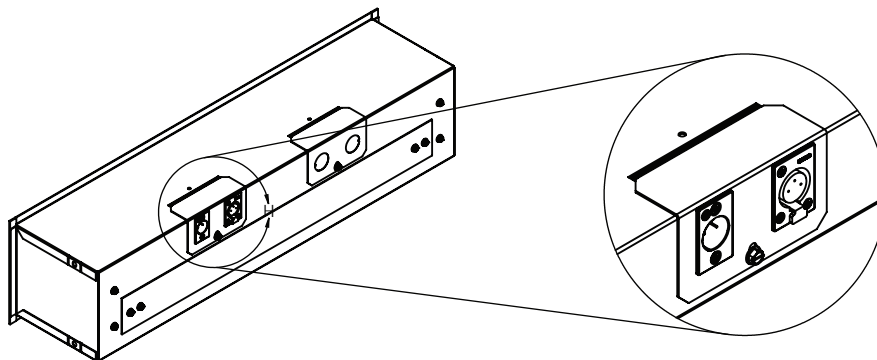

Figure 2
3. If the fixture requires digital control, the fixture will have locking XLR-type plugs for the control cables. Install the control wiring above the t-track grid. Male and female plugs are installed into receptacles (Figure 2) on each fixture; as they are wired in parallel, the control wiring can be daisy-chained. See the Control Wiring section.